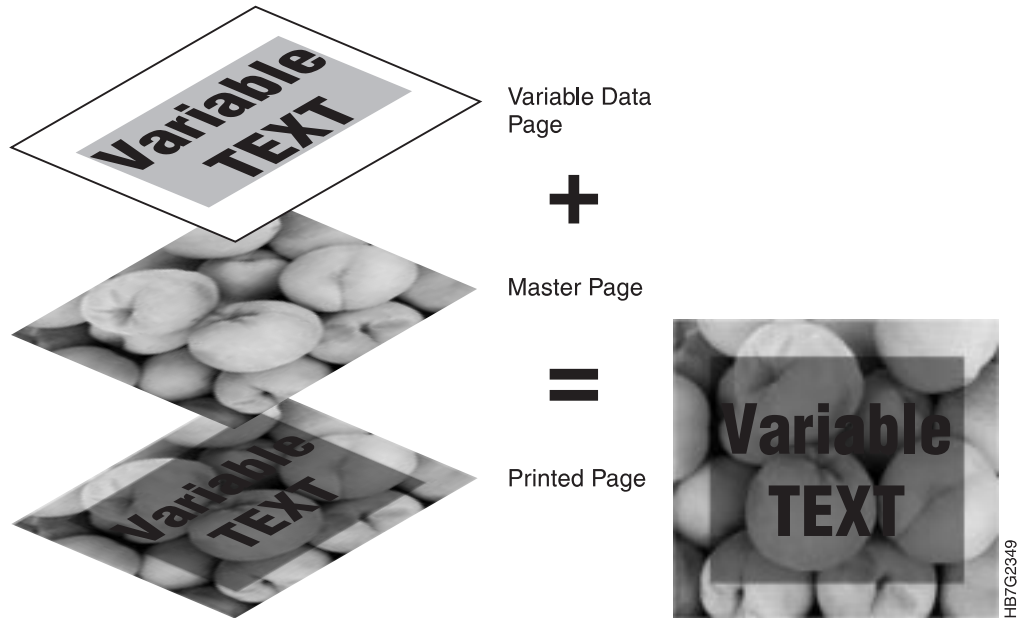

Figure 346. Sample "Overprint" Job Type (VDF2)
**VDF2** Overprints the variable data on the master page. The color of the variable data is combined with the color of the master page. Use this method when the knockout method does not produce the desired effect or when you want the colors of the variable data to be merged with the colors of the master page. See Figure 346.